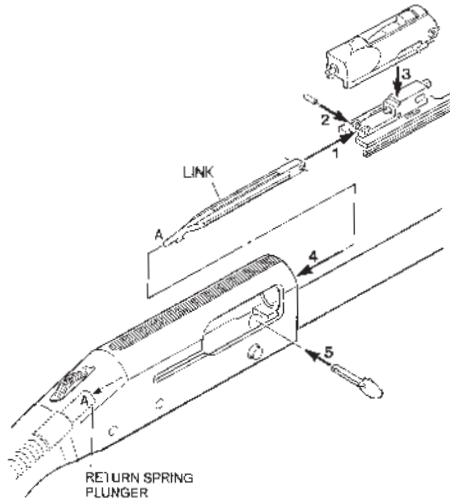

Figure 13
1. Position the link in the slot in the rear of slide (Figure 13).